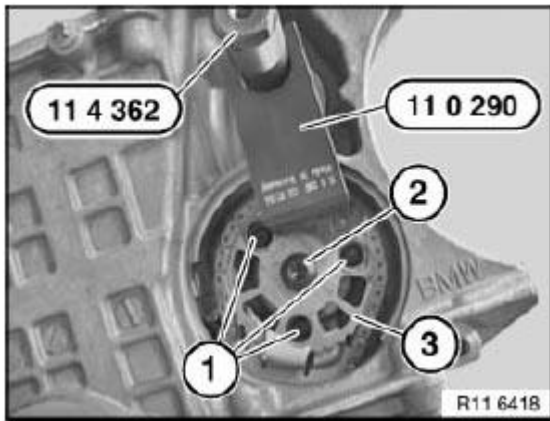

Fig. 305: Identifying Special Tools
Secure special tool 11 0 290 to sprocket wheel (3) and special tool 11 4 362. See **Fig. 305**.